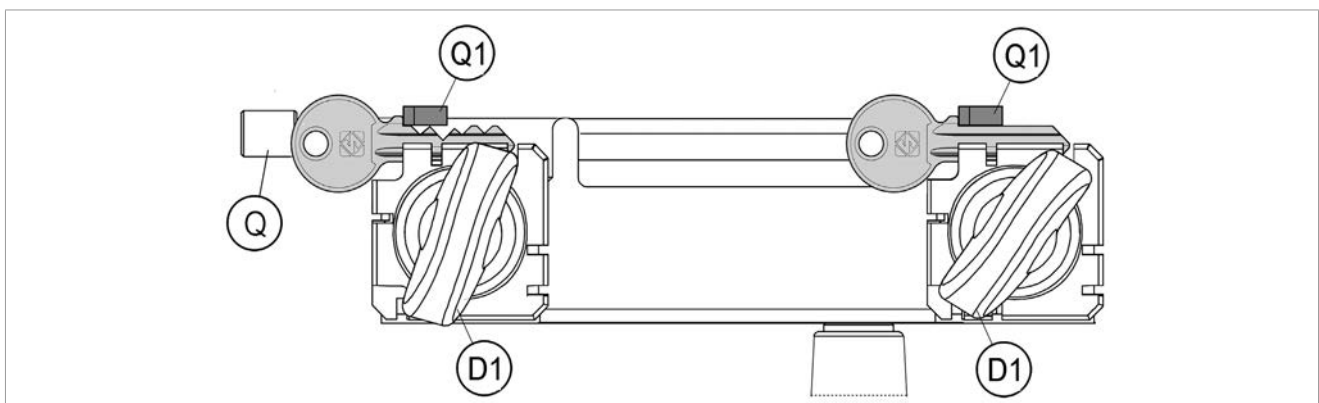

Fig. 23
- b) the key stop is resting against the calibration tab (Q1) (Fig. 23);
- 3) Lower the gauge rod by turning knob (Q).